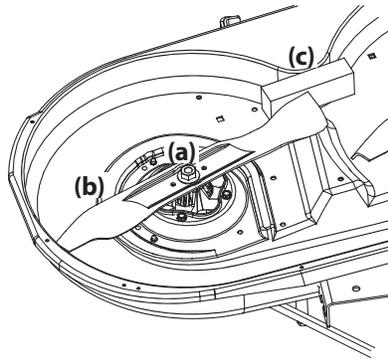

Figure 4-24
2. Use a $1\frac{5}{16}$ " wrench to hold the hex nut on top of the spindle assembly when loosening the blade (b). A block of wood (c) may be placed between the deck housing and the cutting edge of the blade (b) to help in breaking loose the hex nut (a) securing the blade. See Figure 4-24.